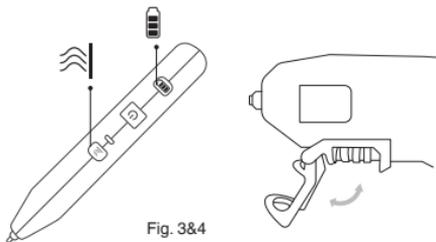

Fig. 3&4
- 2- Switch on: press and hold the switch button (4) 1s), the heating indicator (2) and indicator (5) lights.
- Use the removable stand (9) and rest the gun on a stable flat surface. The removable stand can be pushed back when in use (Fig. 3 & 4).